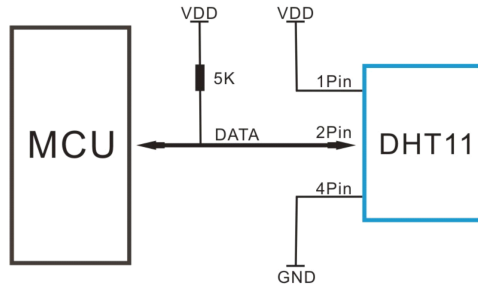

Figure 5.2: Temperature & Humidity Sensor circuit.
**Sensor:** In this section we will learn how to use DHT-11 to read temperature and humidity data and display it on the terminal. DHT-11 features a temperature and humidity sensor module with a calibrated digital signal output. This sensor includes a resistive humidity measurement component and an NTC (Negative Temperature Coefficient) temperature measurement component, and connects to an 8-bit microcontroller to communicate with the RPi. Complete the circuit as shown in Figure 5.2.